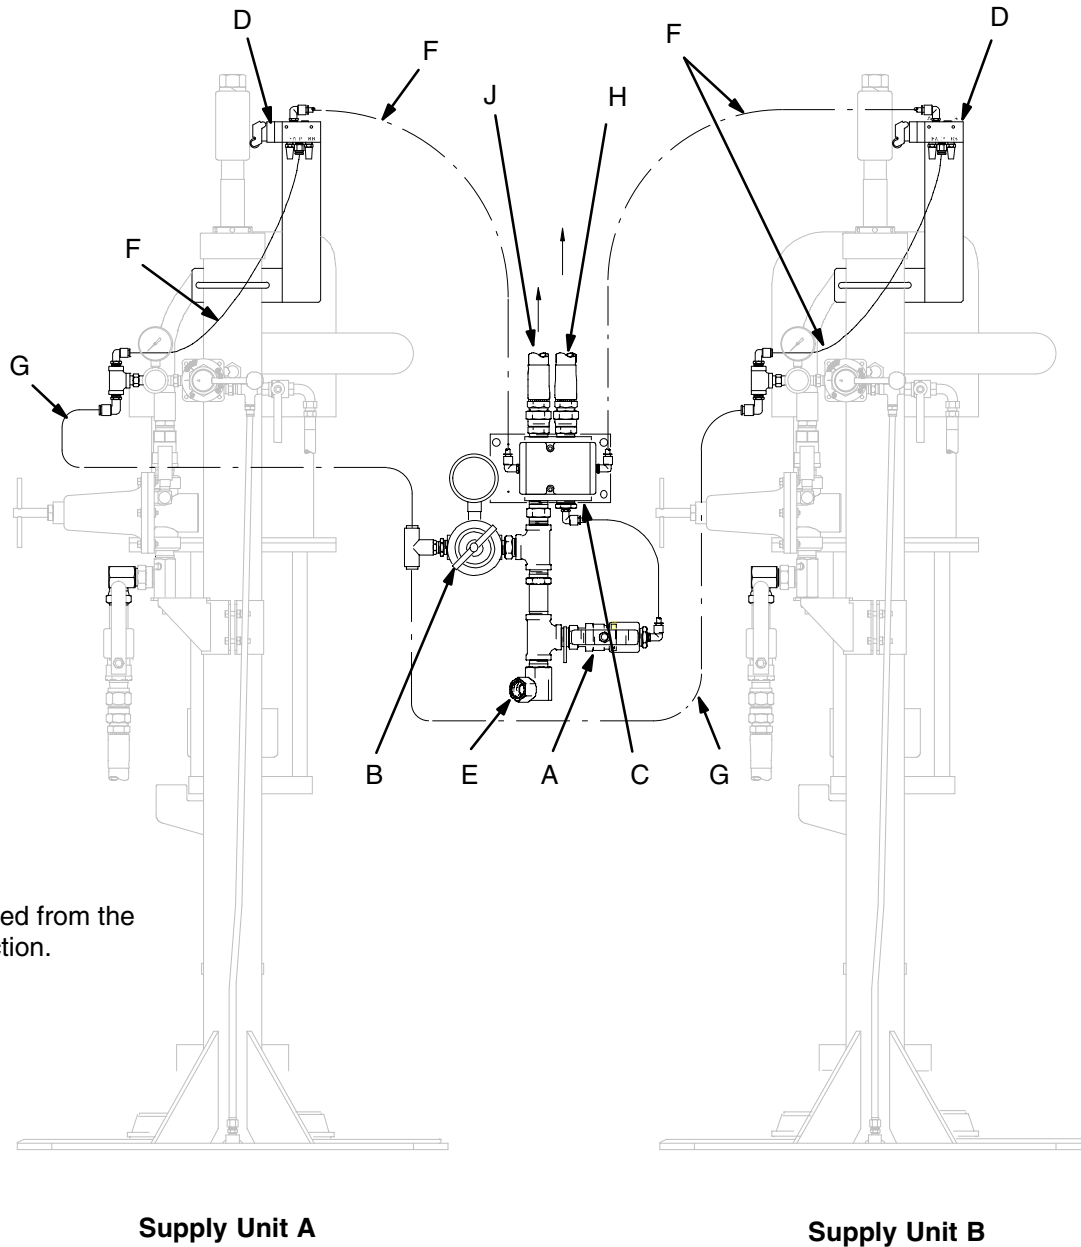

Fig. 1
Install the pneumatic crossover as shown in Fig. 1. Also refer to the applicable Schematic, Figs. 2 and 3.
NOTE: The position of the limit valve (4) on the ram determines when the ram air motor is turned on and off. During operation this position can be adjusted as desired. See Fig. 1.
2. Adjust limit valve (10) to trip with the ram plate 1" from base plate (see Fig. 1).